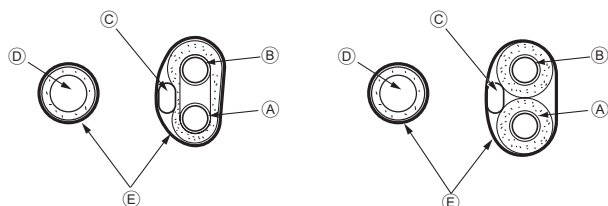

Fig. 3-7
3.3.1. Extraction and processing of the piping (Fig. 3-7)